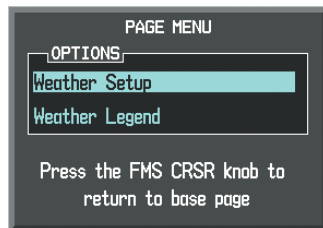

Figure 6-4 XM Weather Data Link Page Menu
- 3) With 'Weather Setup' highlighted, press the **ENT** Key (Figure 6-4).